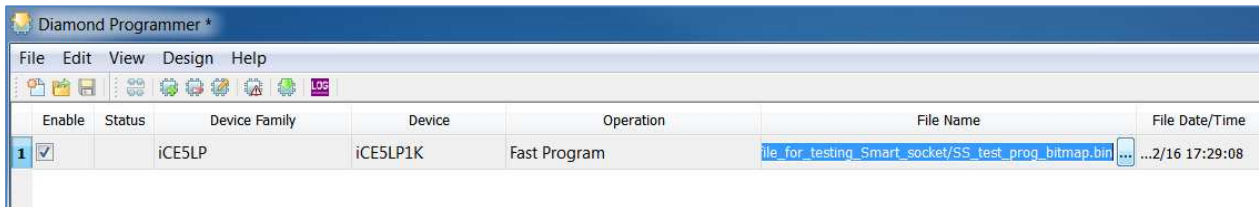

Figure 5.25. iCE40 Family – Select the Programming File
3. Select the programming file to program the iCE40 device by double clicking the **Browse** button  under **File Name** as shown in Figure 5.25.